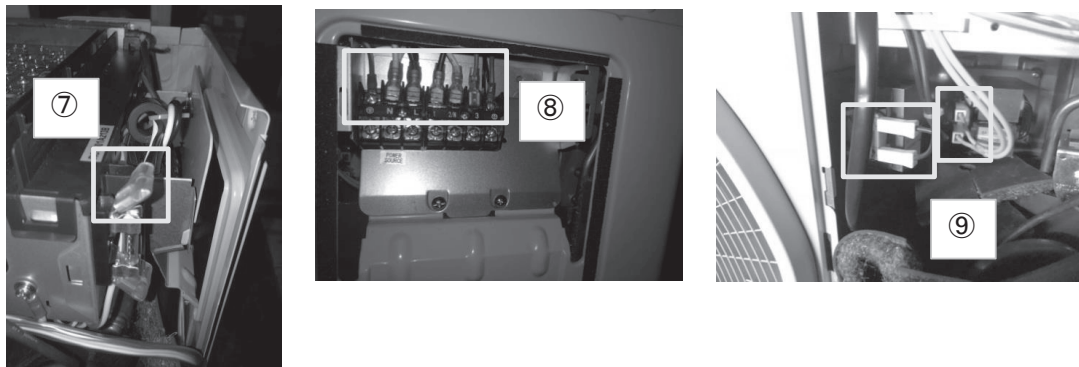

Fig.4 Cable of fuse, terminal block and reactor
- 9) Disconnect the cable of terminal block and fuse. (Fig.4 ⑦、⑧)
10) Disconnect the cables of reactor. (Fig.4 ⑨)